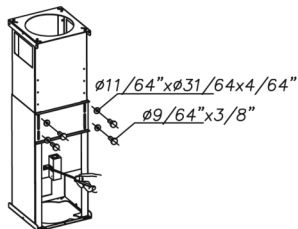
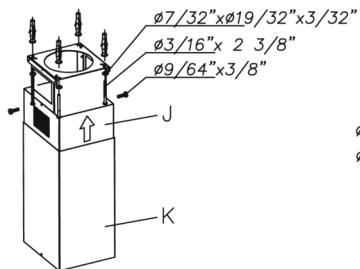

Fig. 3
Fig. 4
- Cleaning the grease filter: Depending on use, and at least once a month, the grease filters should be disassembled (Fig. 3) and (fig. 4) and cleaned in a dishwasher or with hot soapy water. If washed in a dishwasher they should be placed in an upright position to prevent food remains from falling on them. After rinsing and drying, replace the filters by following the steps for disassembly in reverse order.